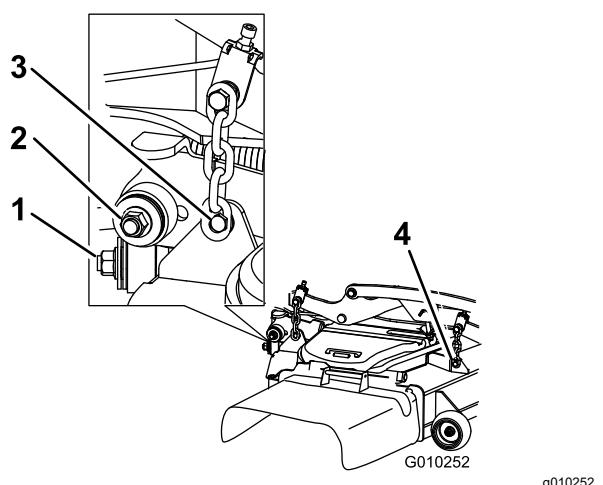

**Figure 109**
5. Remove the floor pan and insert a ratchet into the square hole in the deck idler (Figure 109).
6. Rotate the deck idler clockwise and remove the mower belt (Figure 109).